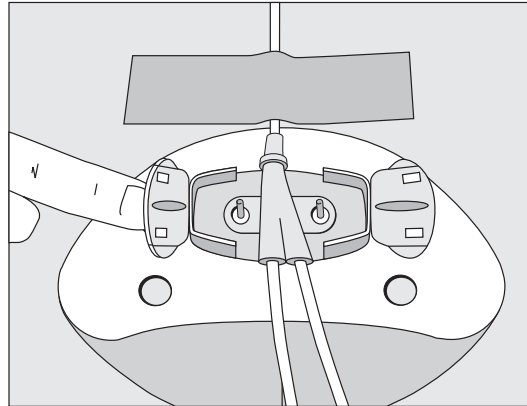
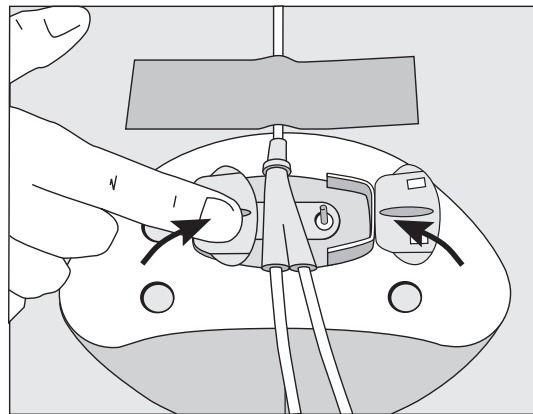

Figure 1
Figure 2
- Place suture hub wings over STATLOCK® posts and press down (refer to Figure 1). Snap STATLOCK® retainer wings to closed position to secure suture hub (refer to Figure 2).